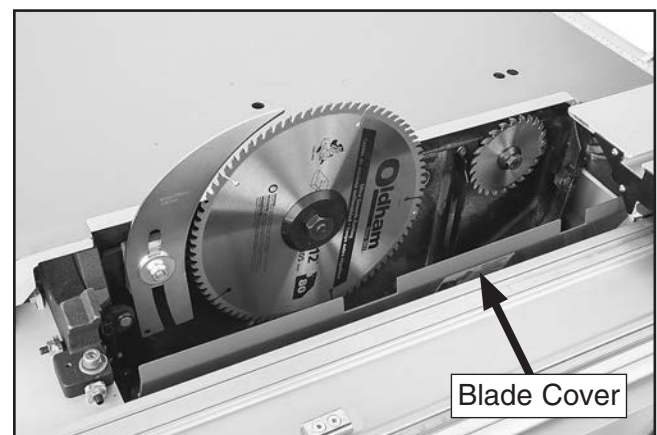

Figure 64. Blade cover open.
11. Move sliding table all the way right, then open blade cover, as shown in **Figure 64**. This activates blade cover safety switch to prevent saw from starting while cover is open.